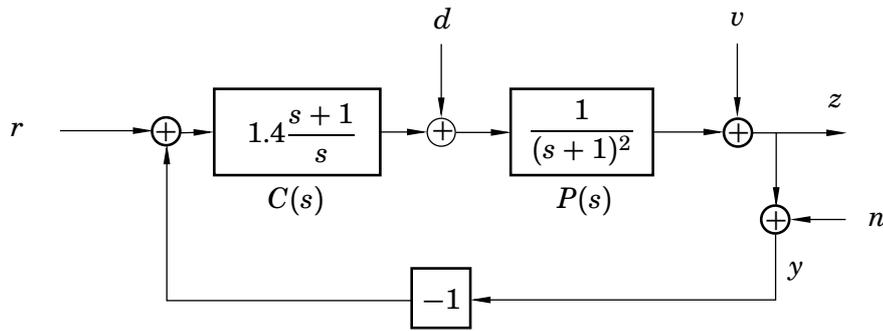

Figure 2.1 System in Problem 2.4
2.4 In Figure 2.1 a feedback system is illustrated.